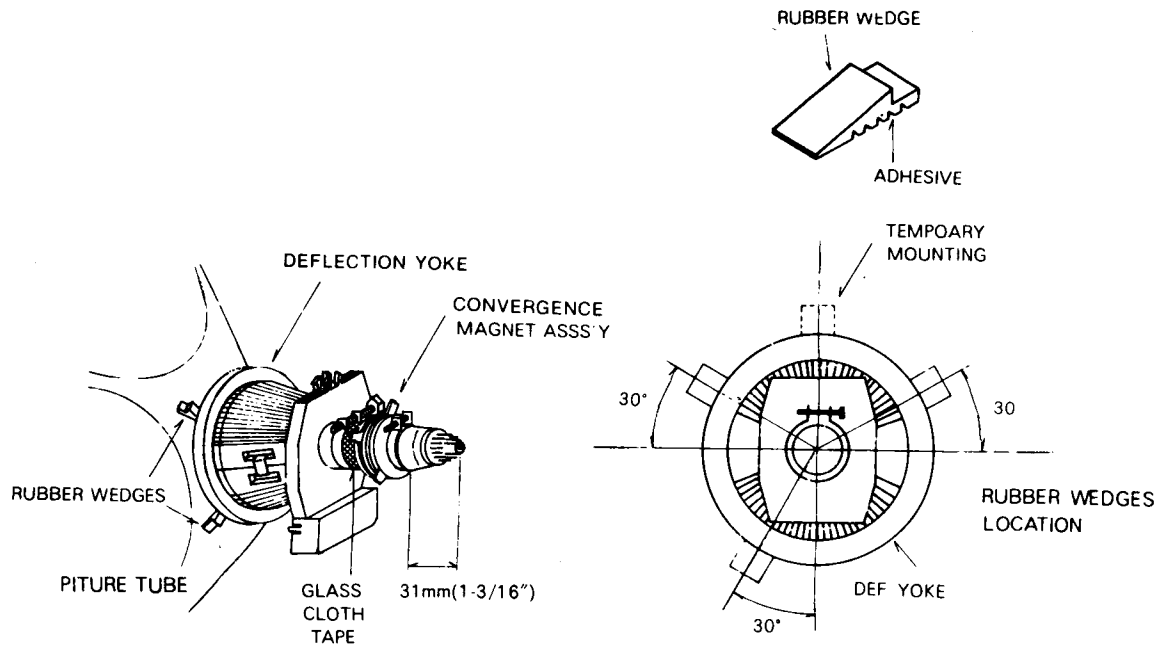

Fig. 3
Convergence magnet assembly and rubber wedges need mechanical positioning following the figure 3.
- 2) Place a wedge as shown in figure 3 temporarily. (Do not remove cover paper on adhesive part of the wedge.)
- 9) Stick 3 adhesive tapes on wedges as shown in figure 3.